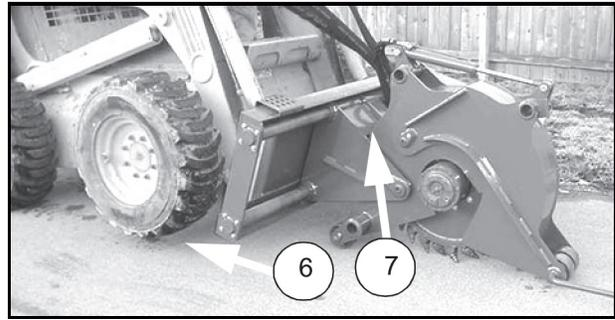

Figure 9.
7. Continue to roll the attach bracket forward until the front and rear wheels of pavement saw contact the ground and the front wheels of the skid steer (6) are off the ground as shown in Figure 9.
8. To avoid excessive vibration and to achieve best cutting results the stop (7) should be in the float position during the cutting operation.